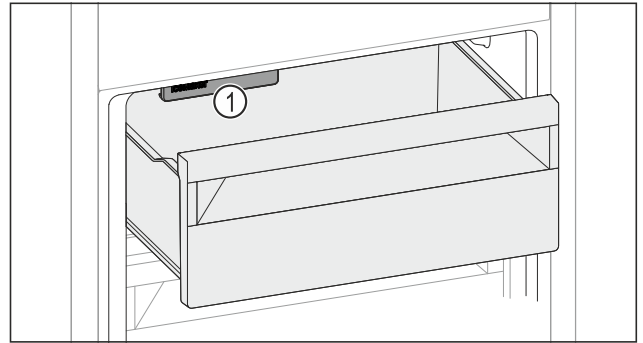

Fig. 130
- Pay attention to the IceMaker Fig. 130 (1).